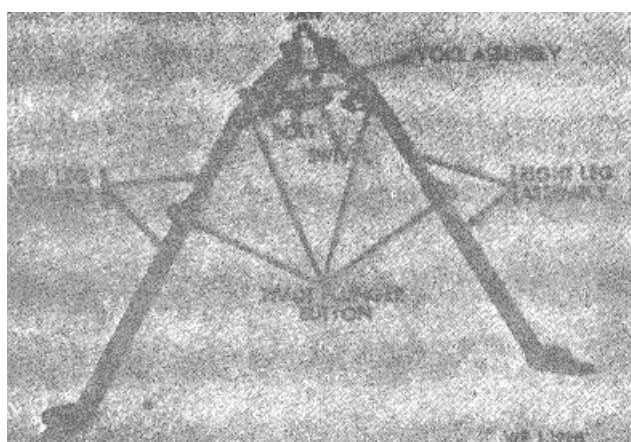

Figure 1-10. Rifle Bipod. M2.
b. The Rifle Bipod, M2 (fig 1-10) is a light weight portable, folding mount which is assembled to the gas cylinder of the rifle.